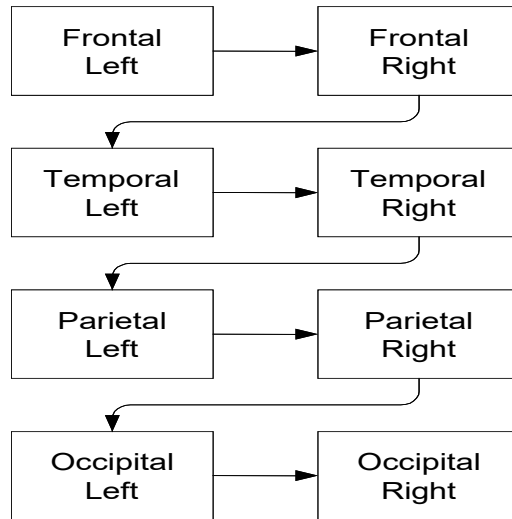
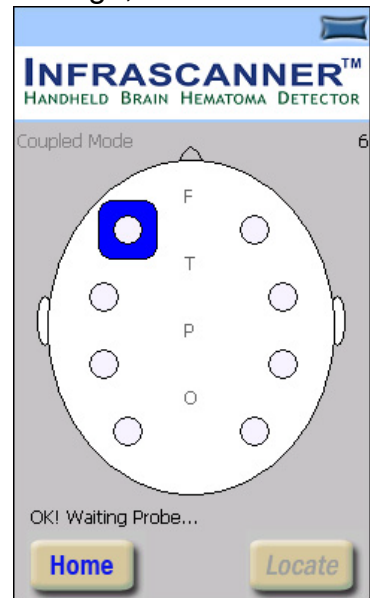

Figure 2-4: Infrascanner head scanning sequence
Figure 3-9: Measurement Screen
6. The Infrascanner is ready to begin measuring. Take the Infrascanner, and start the head scan, alternating between left and right positions according to the head scanning sequence in Figure 2-4. Follow the guidance on the screens to complete a full head measurement.
5. Click on the “Next” button to start patient measurement. After the appearance of the Measurement Screen (Figure 3-9) verify that the “OK, Waiting probe” message appears on the bottom left of the screen. Verify that “Coupled Mode” is indicated on the top left of the screen. If not, contact the factory. If a “communications error” message is indicated instead of the “OK, Waiting probe” message, remove the Disposable Fiber Optic Shield and put it back on to reset the Infrascanner. Re-initiate the data collection.
6. The Infrascanner is ready to begin measuring. Take the Infrascanner, and start the head scan, alternating between left and right positions according to the head scanning sequence in Figure 2-4. The blue square on the screen in Figure 3-9 indicates the current measurement location.